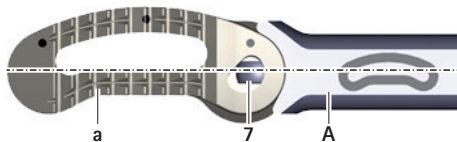

Fig. 8 Implant at 0° position
- Hold the trial implant **D** at 0° position on the insertion instrument **A**, see Fig. 8.
- ▶ Hold the implant at 0° position, see Fig. 8.